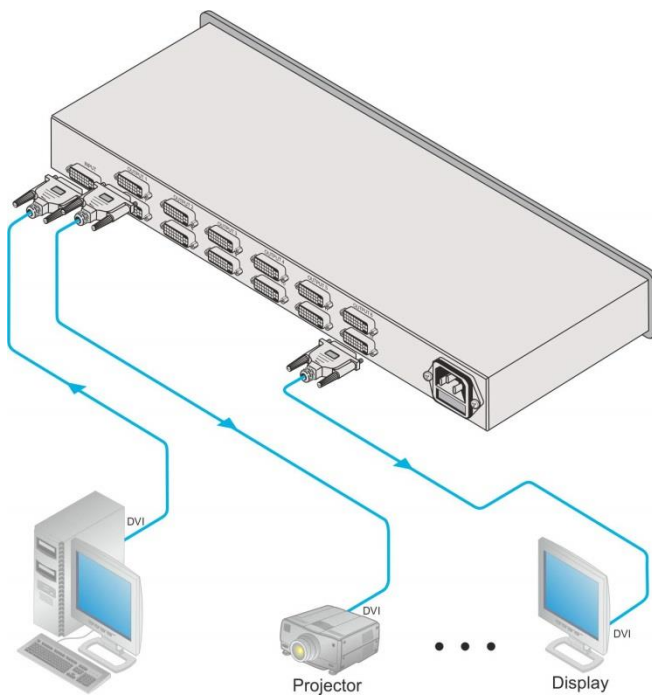

Figure 2: Connecting the VM-12HDCP 1:12 DVI Distributor
To connect the **VM-12HDCP** as illustrated in the example in Figure 2, do the following:
3. Connect the power cord to the mains electricity (not shown in Figure 2).